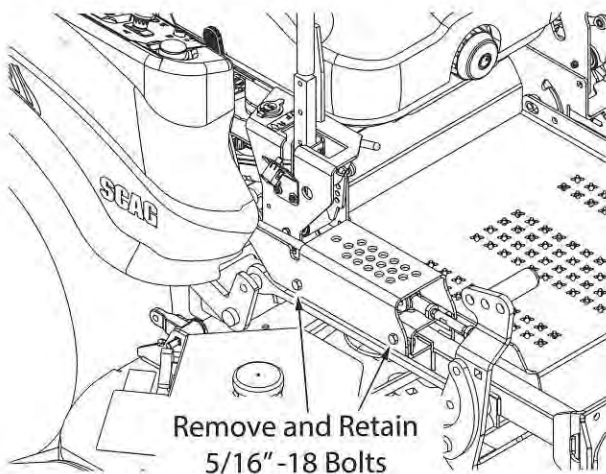

Figure 3-20. STCII Hardware Removal
1. Remove and retain the two (2) 5/16 - 18 x 1 1/4" bolts securing the cutting height bracket to the frame. See Figure 3-20.